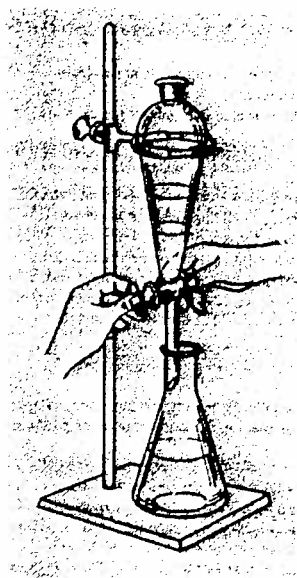

Figure 1
1. Support the funnel in an iron ring attached to a ring stand (see figure 1).